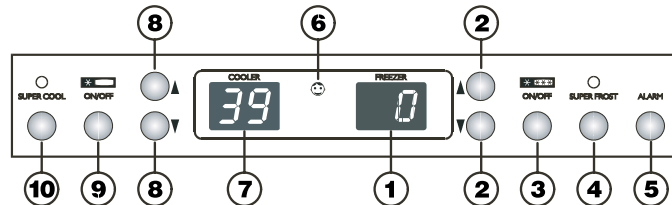

Figure 3
Childproof Lock - Figure 3
Temperature Display - Figure 3
Audible alarm signal - Figure 3
Power Failure/Frost-Control Display - Figure 3
Supercooling - Figure 3
- Press the buttons "Alarm" ⑤ and "Temperature up" ⑧ simultaneously for 3 seconds. The display then shows "On". (Fig. 3)
- Press the buttons "Alarm" ⑤ and "Temperature up" ⑧ simultaneously for 3 seconds. (Fig. 3) The display then shows the actual temperature of the refrigerator and of the freezer compartment.